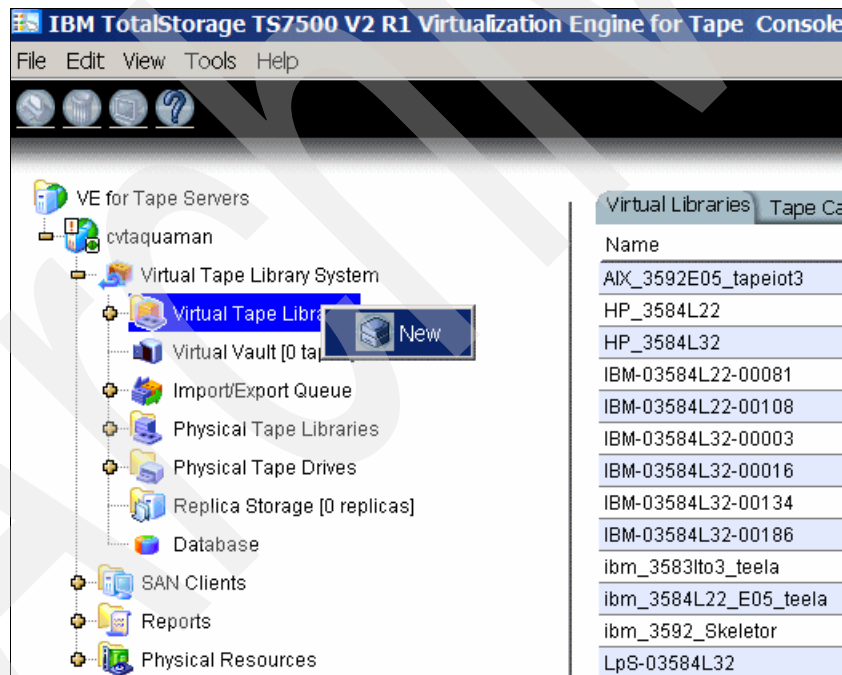

Figure 8-5 Create new virtual tape library
1. As shown in Figure 8-5, right-click the **Virtual Tape Library System** icon and select **New**. This starts the Creating Virtual Tape Library Wizard.